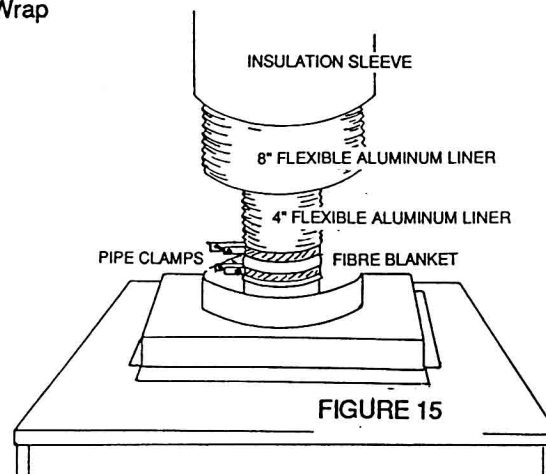

FIGURE 15
1. Install the 4 inch diameter aluminum flexible liner to the fireplace. Secure with 3 screws and flat washers. Seal the joint and screw holes using the high temperature sealant provided. Wrap the joint with the fibre blanket and clamp (Fig. 15).